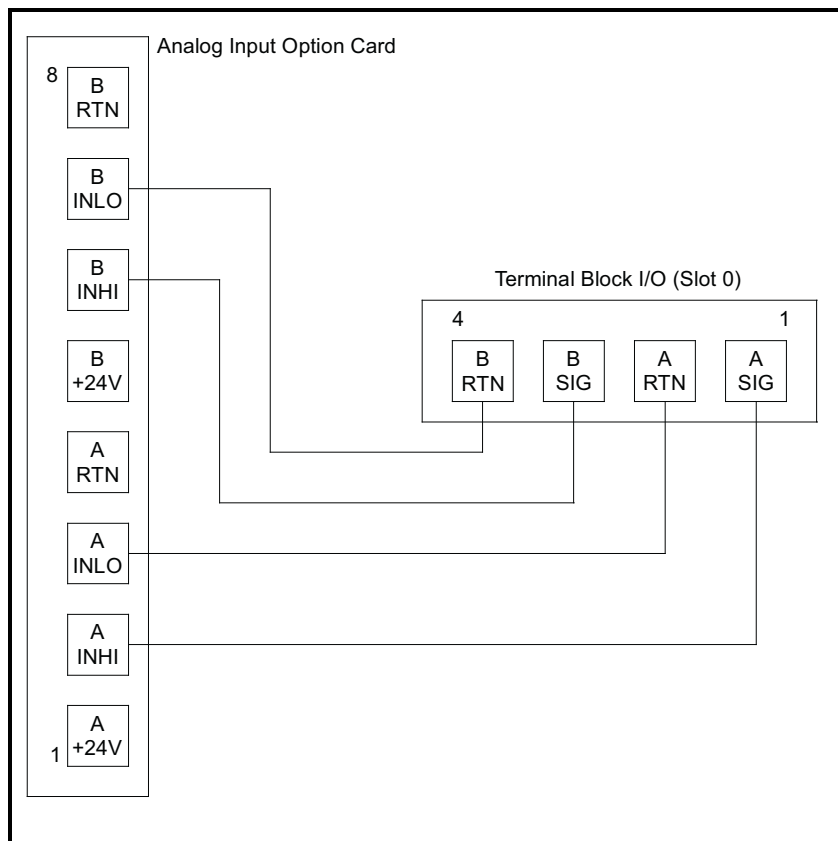

Figure 3: Analog Input Calibration Connections
Connect the **Slot 0** analog output(s) (or an independent calibrated current source) to the analog input(s) on the option card, as shown in Figure 3 below. Refer to the menu map in Figure 6 on page 15 as a guide.
The procedure for calibrating **Input A** is identical to that for calibrating **Input B**. However, when calibrating **Input B**, be sure a calibrated current source is connected to the appropriate pins on the terminal block. See Figure 3 on the previous page for the correct pin numbers. To calibrate a 0/4-20 mA input card, see the section below.
1. Connect the 4 mA current source to the currently selected analog input, as shown in Figure 3 on page 6.
1. Connect the 20 mA current source to the currently selected analog input, as shown in Figure 3 on page 6.